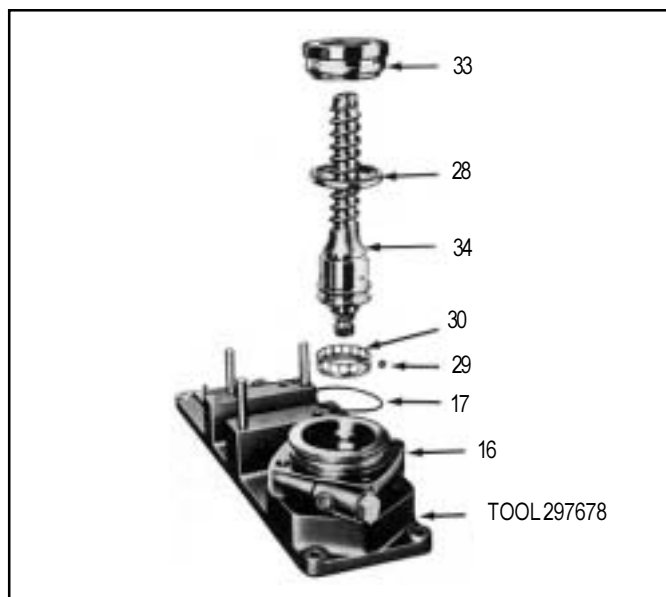

FIGURE 25
16. With a drift punch unblock the safety point between valve nut(33) and valve body(16). Loosen and remove the valve nut with spanner wrench 297661 and remove the spindle assembly(34), the ball race(28), the ball cage(30), and the seventeen bearing balls. (See Figure 25)